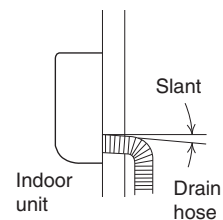

Fig. 3-35
- The drain hose should be slanted downward to the outdoors. (Fig. 3-35)